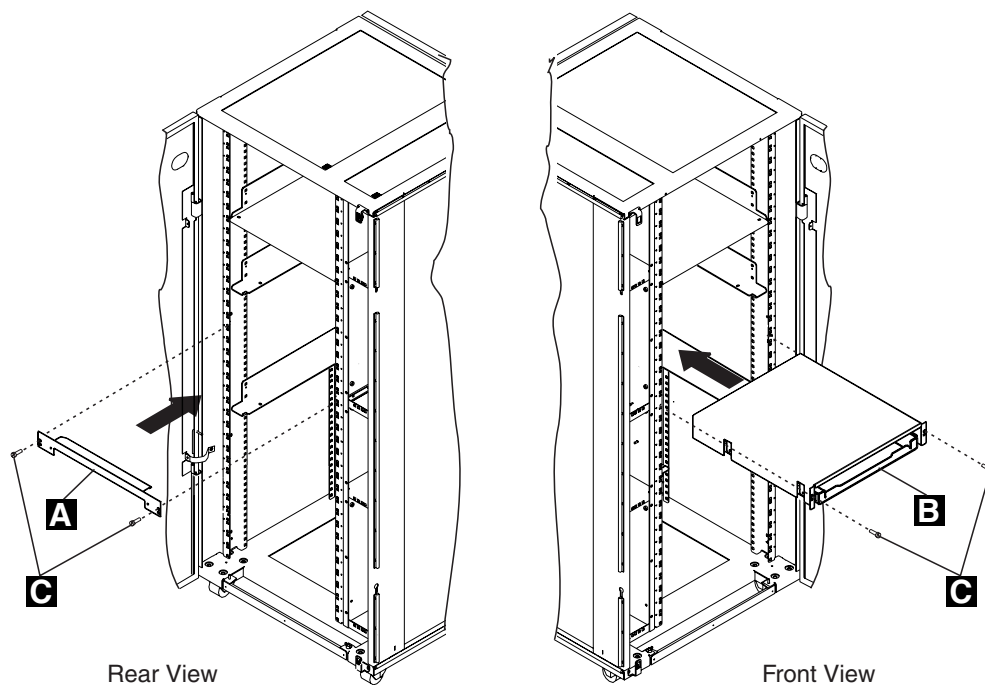

Figure 14. Installing the Service Drawer
- 3. Refer to Figure 14 on page 15, on the rear side of the controller expansion, install bracket **A** using two screws **C** (PN 1621232).